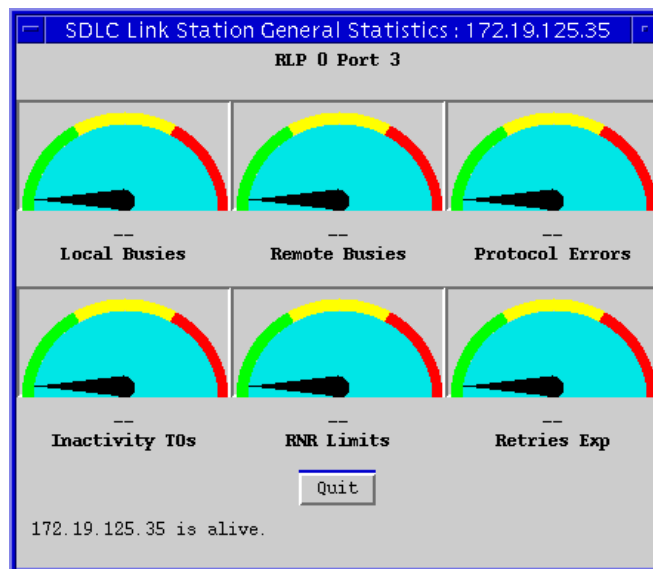

Figure 7-8. SDLC Link Station General Statistics
2. Drag down to **SDLC LS General Stats**, and release. The SDLC Link Station General Statistics window, Figure 7-8, will appear.